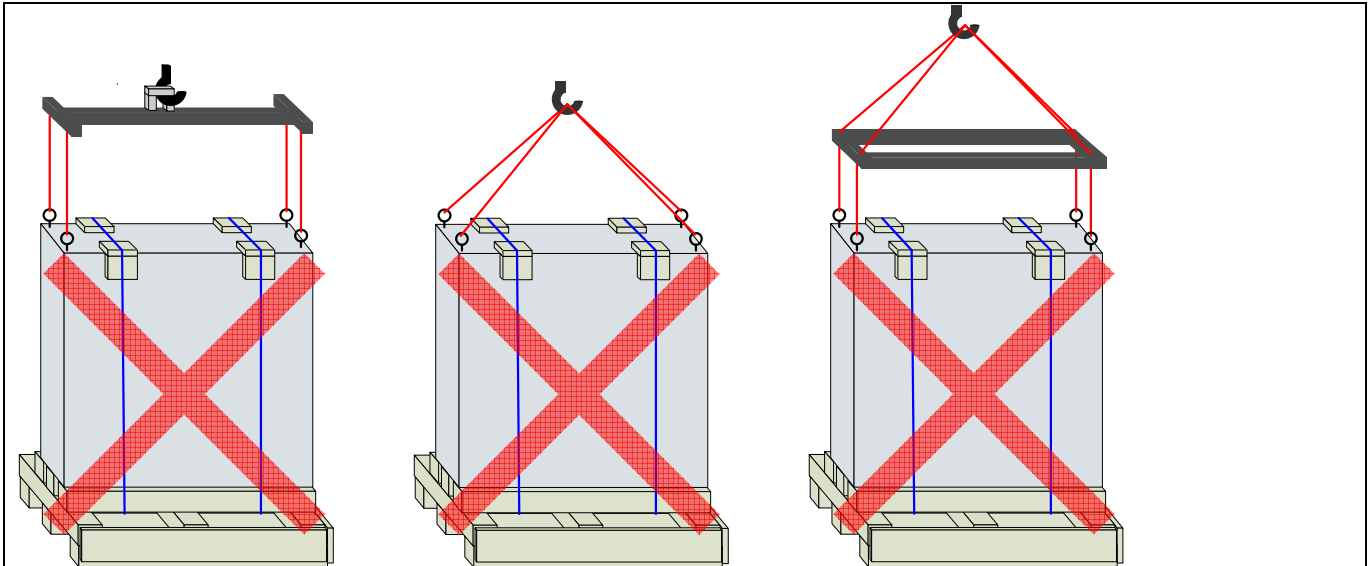

Figure 4-14 Transport methods – prohibited use of crane eyelets
- Use of steel lifting elements (Figure 4-14)